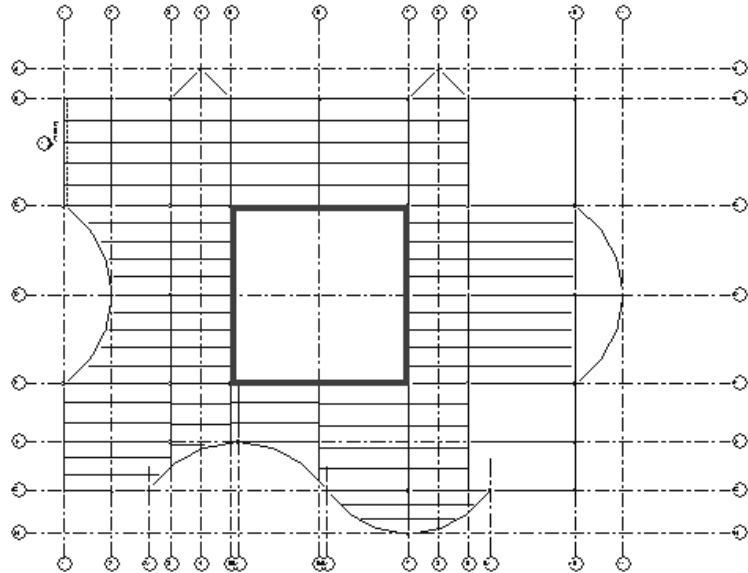

Figure 7-67
1. Open the **Structural Plans: TOS-14 ROOF** view. Some of the structural framing has been removed in this plan to make way for a large skylight, as shown in Figure 7-67.